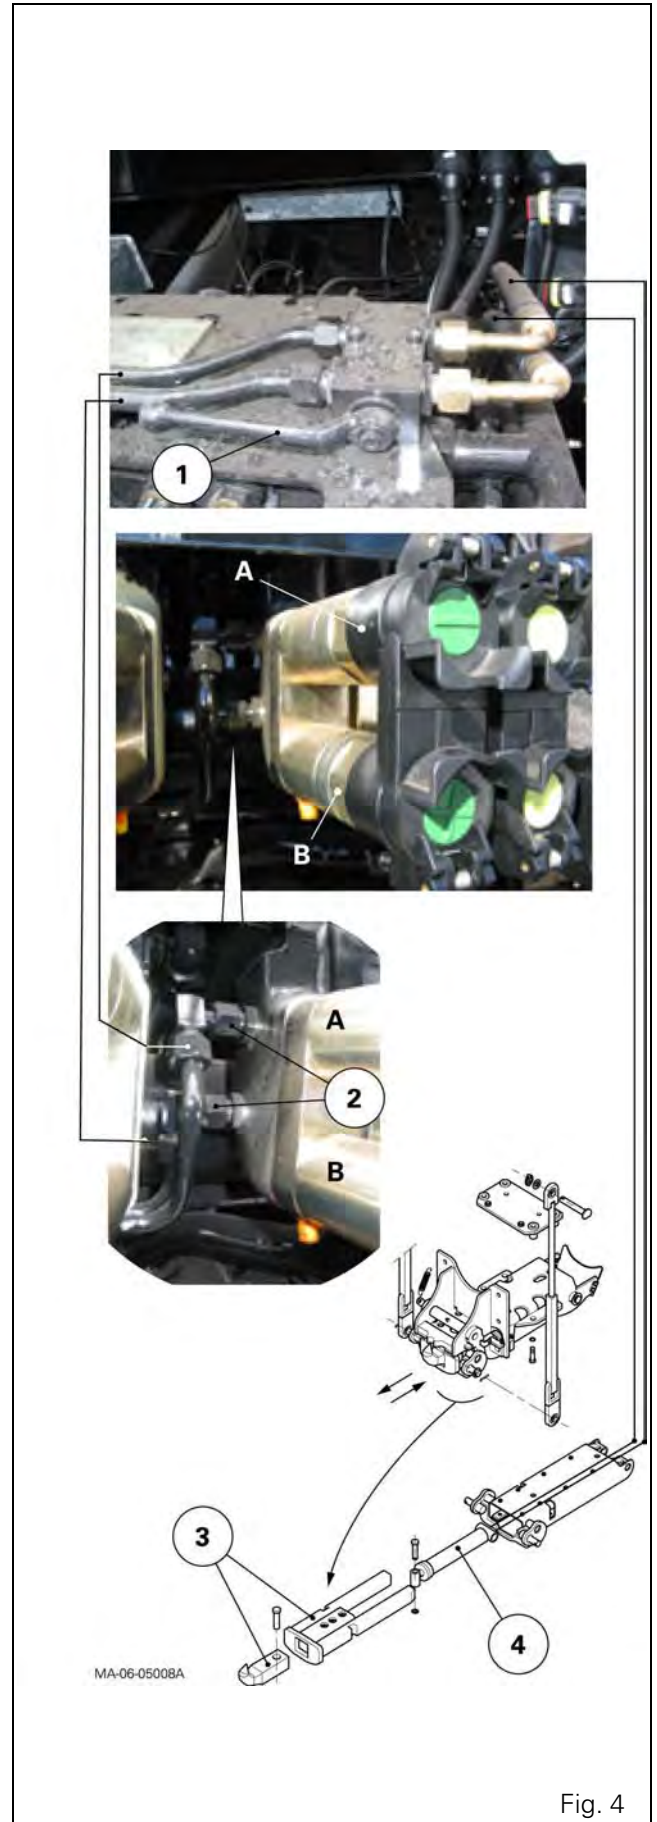

Fig. 4
Legend (Fig. 3, Fig. 4)
Operating principle (Fig. 4)
It is possible to use the auxiliary spool valve again when the lever is hydraulically isolated by the closed valve (1) (Fig. 4).
With the engine running and plate raised, open the valve (1) (Fig. 4).